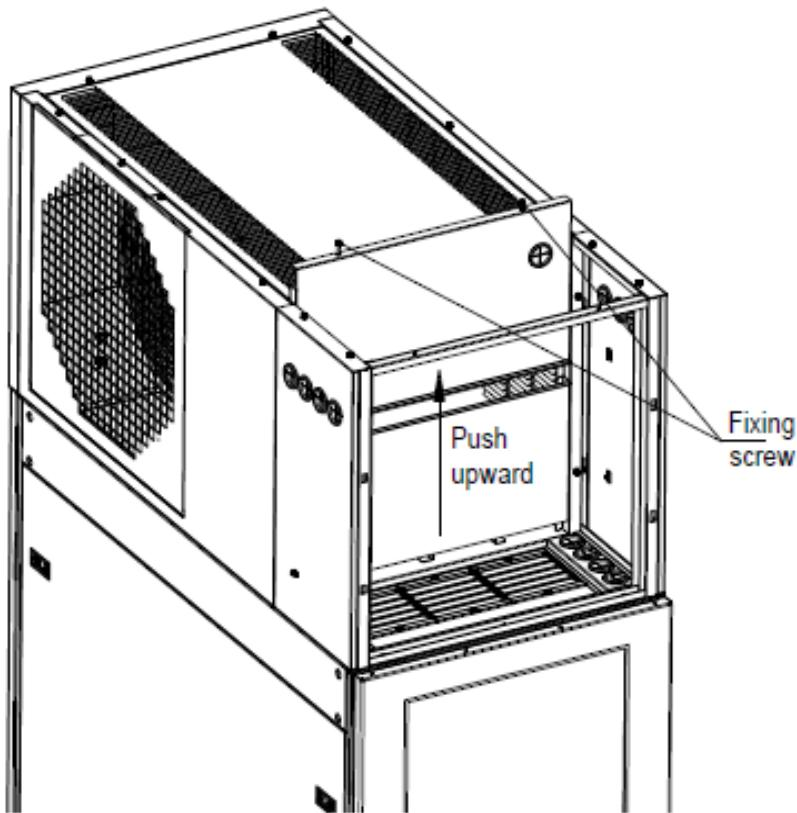

Figure 2-25 Removing the internal cover
2. Next, open the internal cover. Remove the 2 screws on top of the cover and push upward to remove the cover. Figure 2-25 shows the procedure for the same: